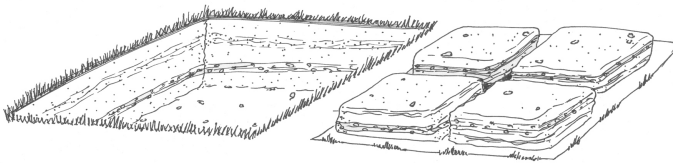

Figure 3: Initial Excavation for Drain Gauge G3 Installation
2. Remove the surface vegetation and place it on the tarp. Try to preserve as much of the root mass as possible. Also, it is important to organize the vegetation you remove so that it can be replaced as closely as possible to its original location(Figure 3)